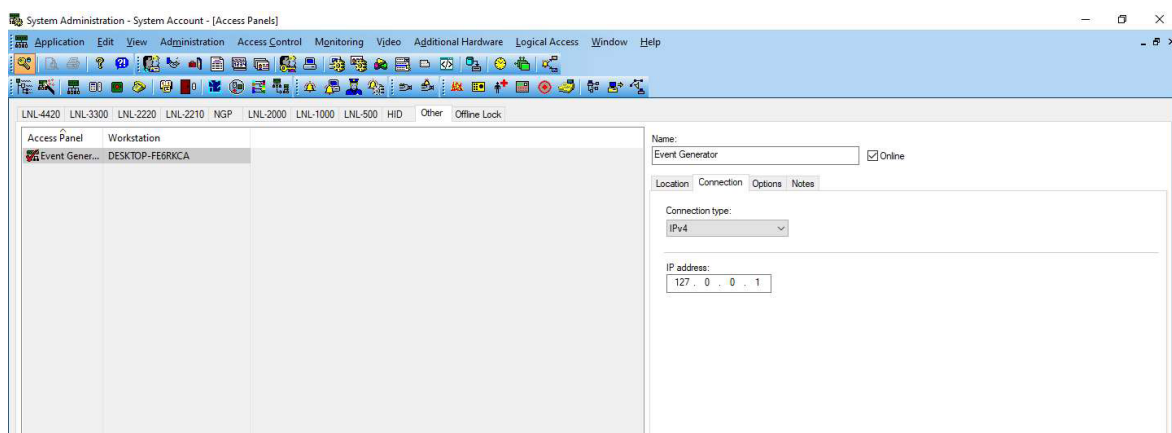

Figure 9
8. On the Connection tab, enter the IP address 127.0.0.1. See Figure 9.